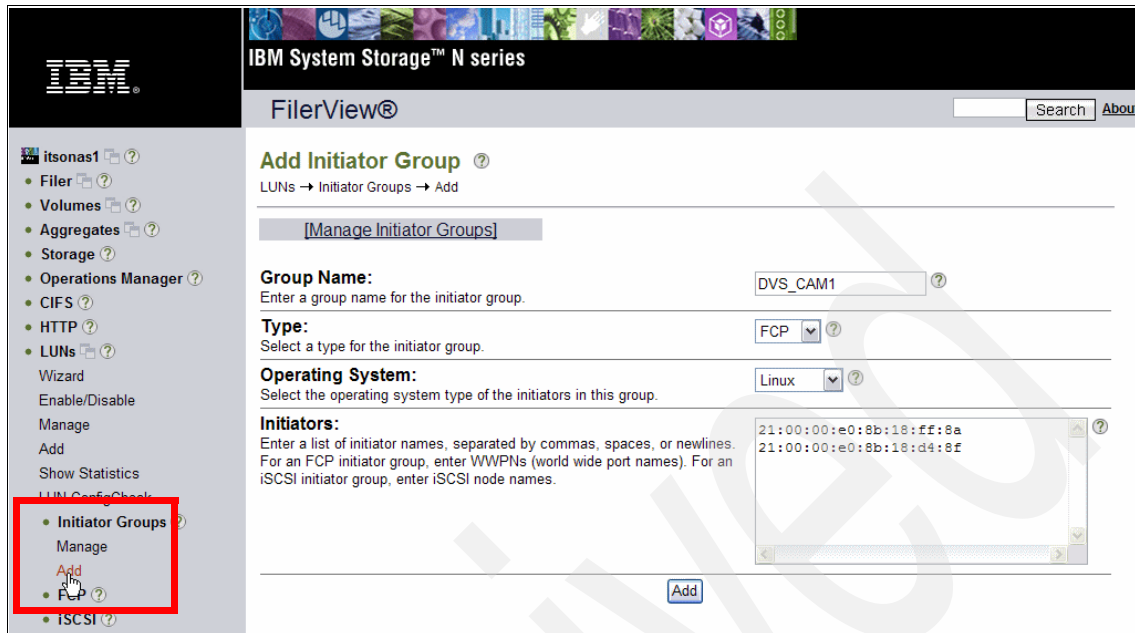

Figure 7-28 Initiator Group Definition
1. Select **LUN → Initiator Groups → Add**. Figure 7-28 on page 220 is displayed, where you perform the following actions: